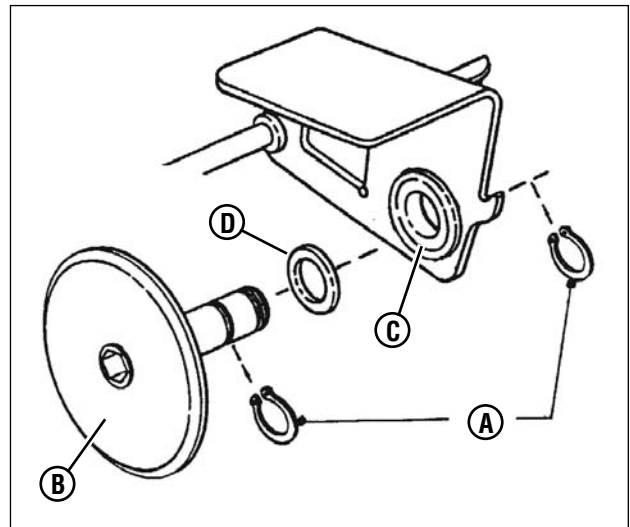

Figure 30: Replacing the driven disc
3. Remove the two snap rings (A, Figure 30) which secure the rubber driven disc (B) to the driven disc assembly.
2. Remove both snap rings (A, Figure 30) that secure the rubber driven disc (B) to the thrust plate.
4. Drive out the existing bearing (C).
**NOTE:** Be sure to replace the shim washer (D) when reassembling the driven disc assembly.